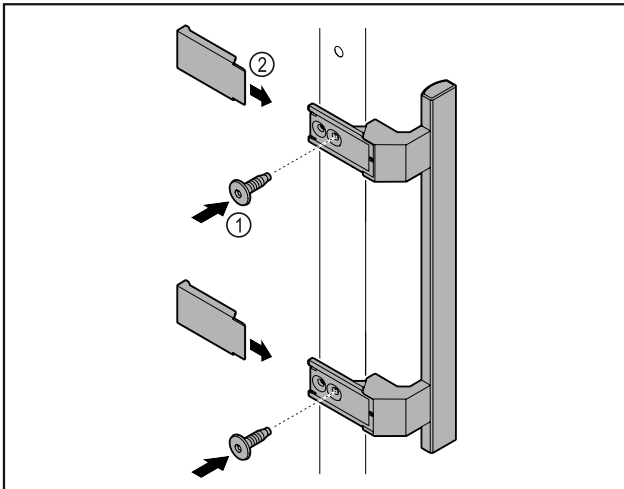

Fig. 57
- ▶ Attach handle from accessory kit to the door using supplied screws Fig. 57 (1).
- ▶ Put on cover Fig. 57 (2).